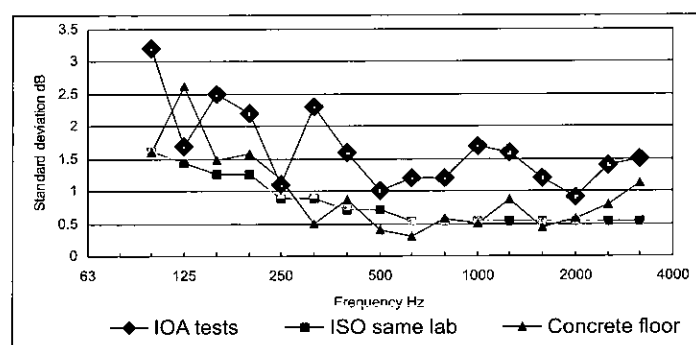

Figure 4: Measured standard deviation from the IOA tests compared with the standard deviation from 10 tests by the same operator on the same concrete floor (3)
It is, in any case, difficult to meet the expectations of the standard. Figure 4 shows the standard deviation of the IOA workshop data together with the standard deviation of ten separate measurements on a single concrete floor by a single person (3), which also does not fully meet the guidance of ISO 140 (although it is close).